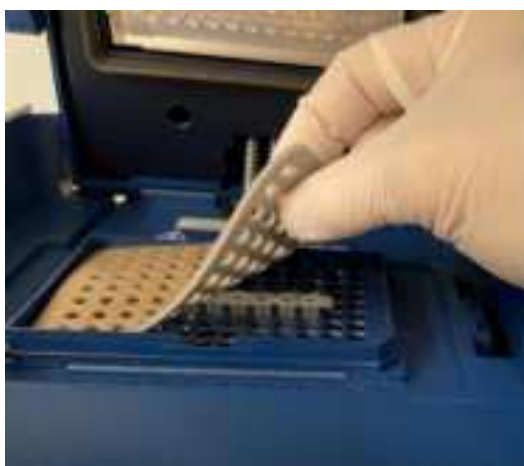

Figure 8. Applying the compression pad before PCR2
- F. Cover the tubes or plate with a compression pad (see Figure 8) and close the lid of the thermal cycler